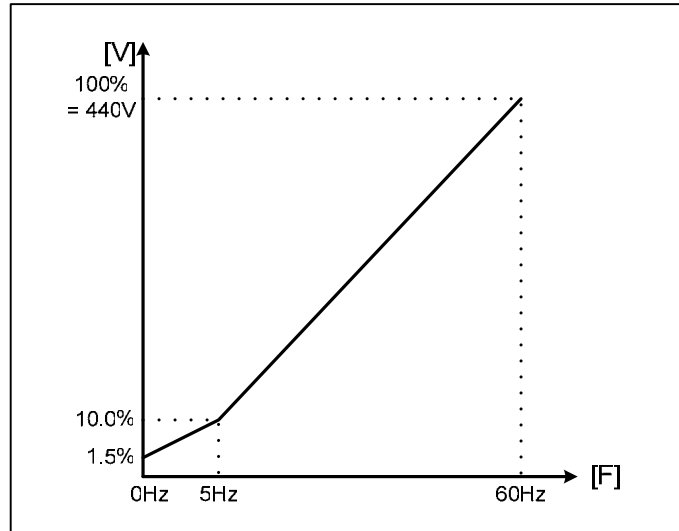

Figure 7.4-2 V/F pattern user setting example
▶ Refer to Figure 7.4-2 if you want to adjust the output rated voltage (V) or the rated frequency (F) of your own accord